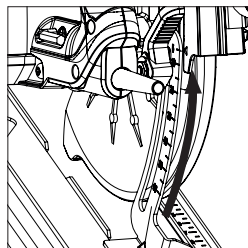

Fig. 10
(12) CUTTING DEPTH ADJUSTMENT
- Loosen the Depth Adjustment Locking Mechanism by pulling the operating lever upwards. **(Fig. 10)**